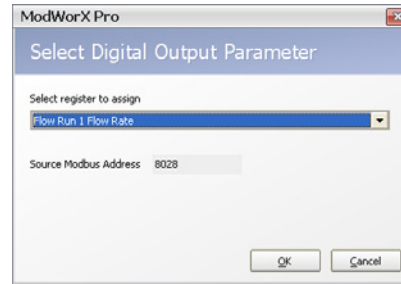

Figure 7.16
3. Select the parameter to be assigned to the digital output. Click **Select** to view the options. A Select Digital Output Parameter window will appear (Figure 7.16). Click on the dropdown arrow to view all available parameters. Click on the parameter of your choice, and click **OK** to save the selection and return to the Configure Digital Outputs screen.